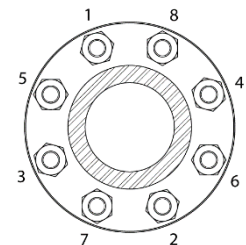

Figure 1
- a. OD Seal Adjustments to be torqued using proper 8 bolt flange sequence (See Figure 1)